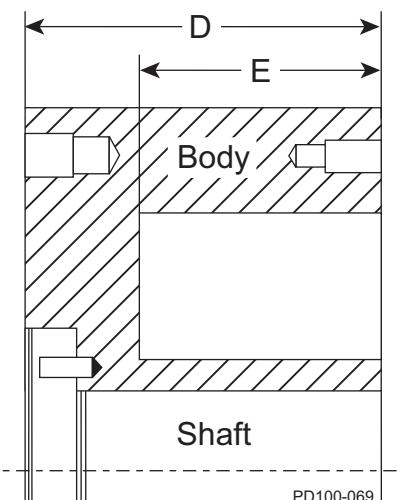
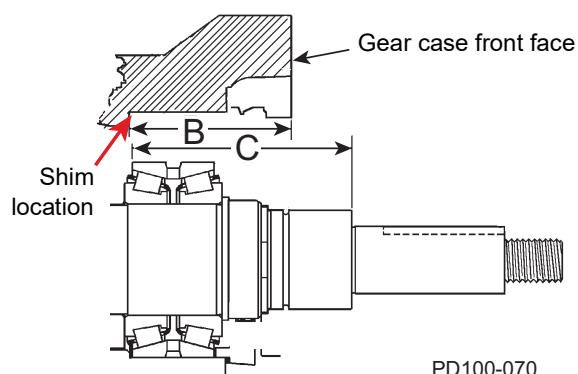

Figure 54 - Measure D and E
Figure 55 - Measure B and C
- If it is necessary to calculate the required shims for replacement shafts, bearings or both, refer to Figure 55 and Figure 54; carry measurements and calculations to three decimal places (e.g., .059).
- Measure "B" in the gear case and "C" on the shaft (Figure 55).
- Measure "D" and "E" on the body (Figure 54).
- (Callouts for both Figure 54 and Figure 55)